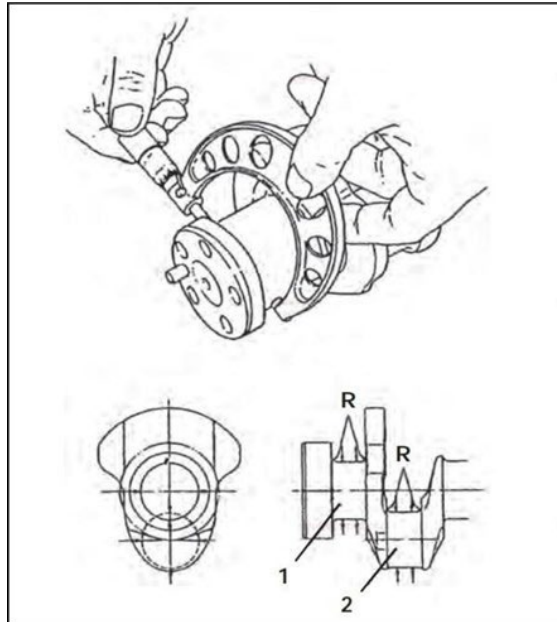

Figure 127.
5. Measure the outside diameter of each crankpin (Figure 127, item 2) and main bearing journal (Figure 127, item 1). See the Crankshaft mechanical specifications chart. Take measurements at several places around each bearing surface. If not within specification, grind the journals and install undersize bearings, or replace the crankshaft.